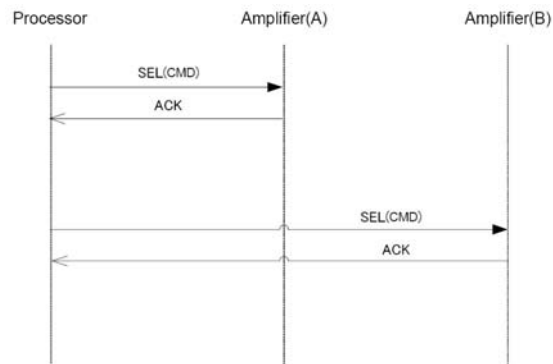

Figure 2.24 Using the SEL instruction to upload an amplifier DATA read command
- The Host PC can modify the responding DATA, by sending a SEL instruction to the amplifier(s) prior to a POL instruction (see Figure 2.24 below). The SEL instruction will contain one of the commands from Table 18 (below), followed by qualifying bytes. The command will then instruct the amplifier to only respond with the DATA packet corresponding to that command. For example, if the SEL instruction is used to send command 0x82, then only attenuation data will be sent back from the amplifier on the next POL instruction.